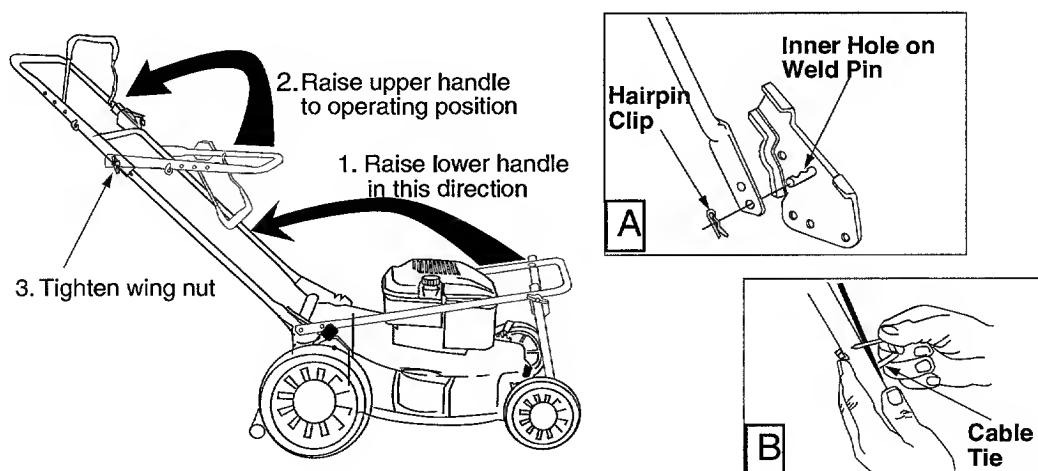

FIGURE 4
- Using a pair of pliers, insert the hairpin clip into the inner hole in the weld pin. Repeat on other side. See Figure 4 inset A.
- Raise the upper handle in the direction shown in Figure 4. Tighten the wing nuts which are already on the handle.